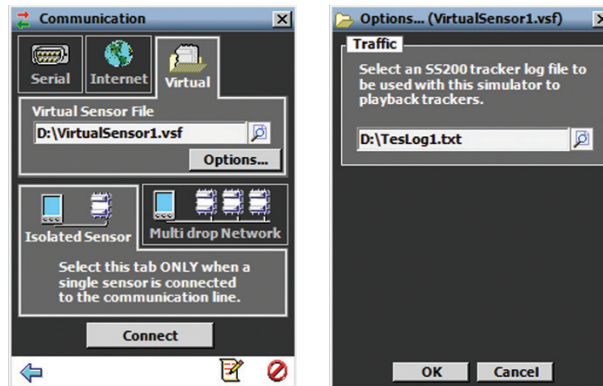

Figure 4.4 – Virtual Connection and Additional Options Screen
- 2 Select the **Virtual** tab (see Figure 4.4).